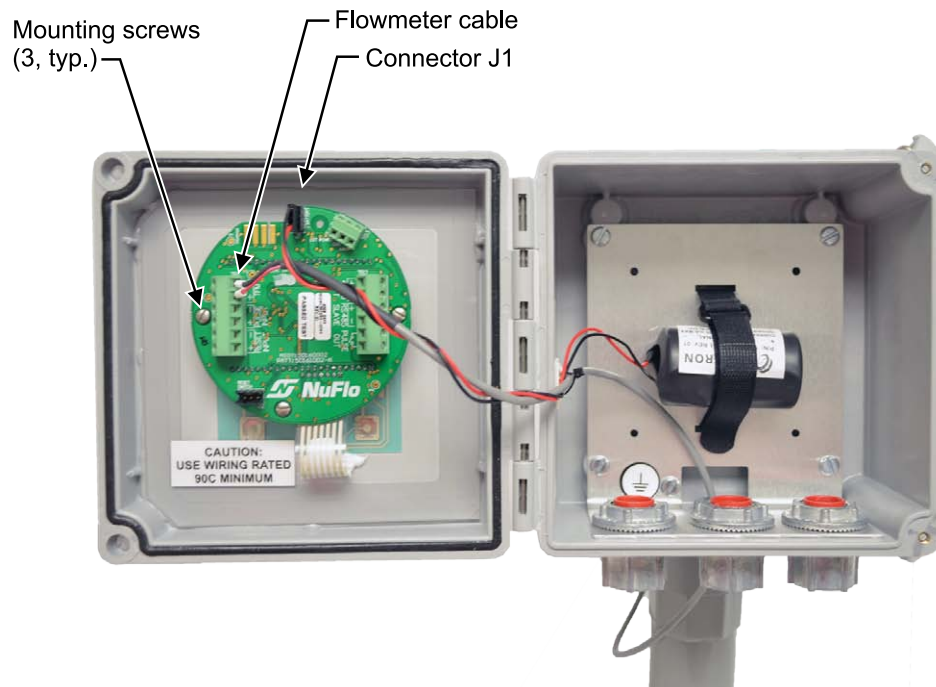

Figure 6.3—Removal of circuit assembly
5. Using a small Phillips screwdriver, remove the three screws from the circuit assembly (Figure 6.3).
1. Using a small Phillips screwdriver, remove the three screws from the circuit assembly (Figure 6.3, page 92).